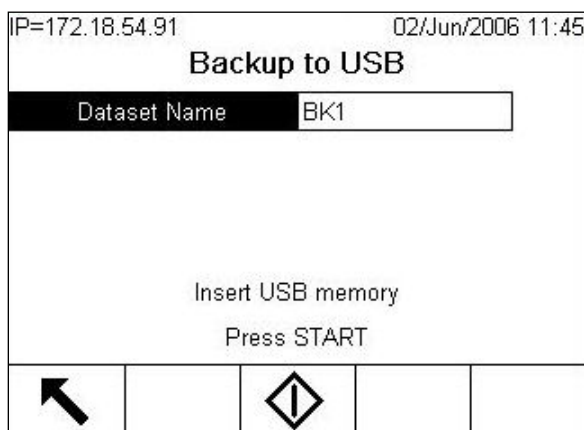

Figure 3-6: Backup to USB
2. Access **Setup > Maintenance > Run > Backup to USB**. The screen shown in Figure 3-6 will appear.